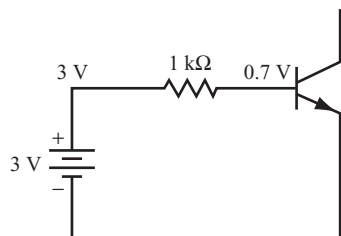

FIGURE 3.9
**7** In the circuit shown in Figure 3.9, you can calculate the base current using the techniques covered in Chapter 2, “The Diode.”
Find the base current in the circuit shown in Figure 3.9. (*Hint: Do not ignore the 0.7-volt drop across the base-emitter diode.*)